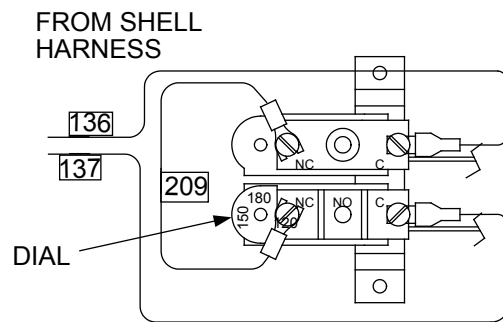

Figure 5.3
2. Lower the adjustable temperature limit switch setting to match the outlet water temperature. (See Fig. 5.3).